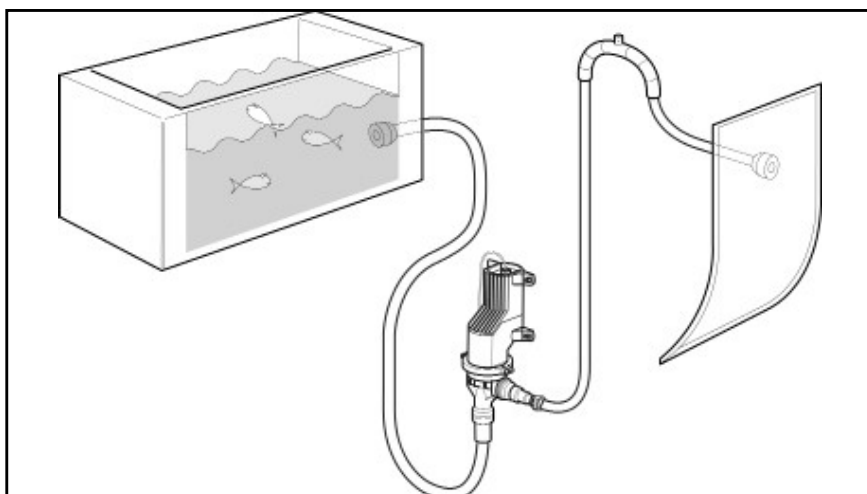

Figure 2 - Typical Installation
- The Whale® Gulper® Grouper pump **must be** installed at or below the level of the fish box drain (Fig 2). The opening for the fishbox drain **must** include a grid. with openings no greater than 19mm x 19mm.
- The pump **must not** be mounted below the water line when connected to an intake or outlet unless the system has a vented loop (Fig 2).